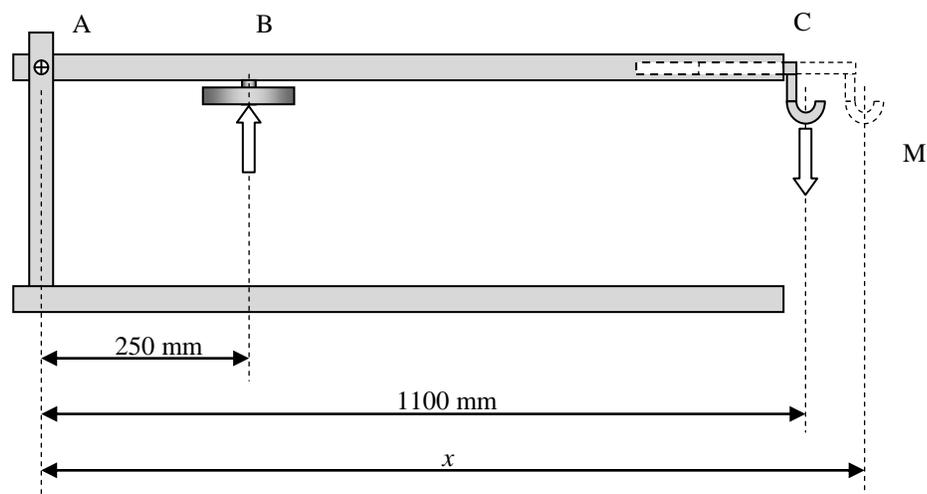

Figure B2: Press apparatus configurations and details
- Self weight of the lever handle including wooden piston and the hook (Figure B2):
R_B equals the reaction at point B or at the wooden piston due to the weight of the piston and the steel lever handle alone. To find “ x ” (Figure B2) we have: